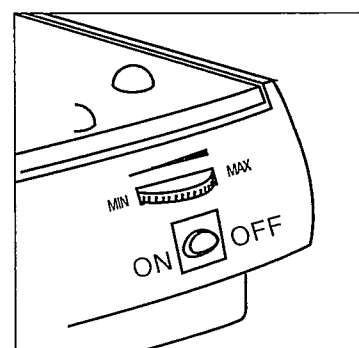

Figure 10
2. Set Variable Steam Control Dial to "MIN" setting — turn Dial completely to left when facing front of Control Center (Figure 10). The Variable Steam Dial can be set from "MIN" to "MAX".